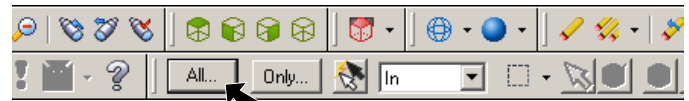

Fig. 29
- Step 2. Click the All in the General Selection ribbon bar, **Fig. 29**.